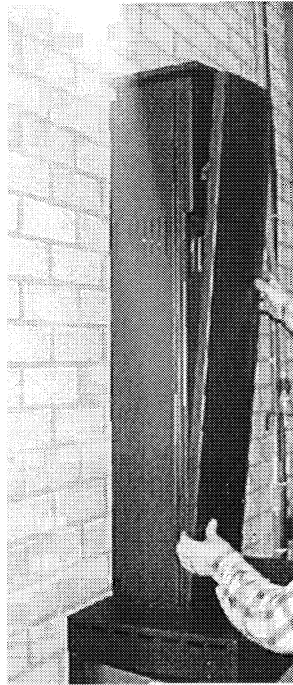

Fig 4
- Hook the front plate into the slots (making sure the hooks are positioned downwards).(fig 4)